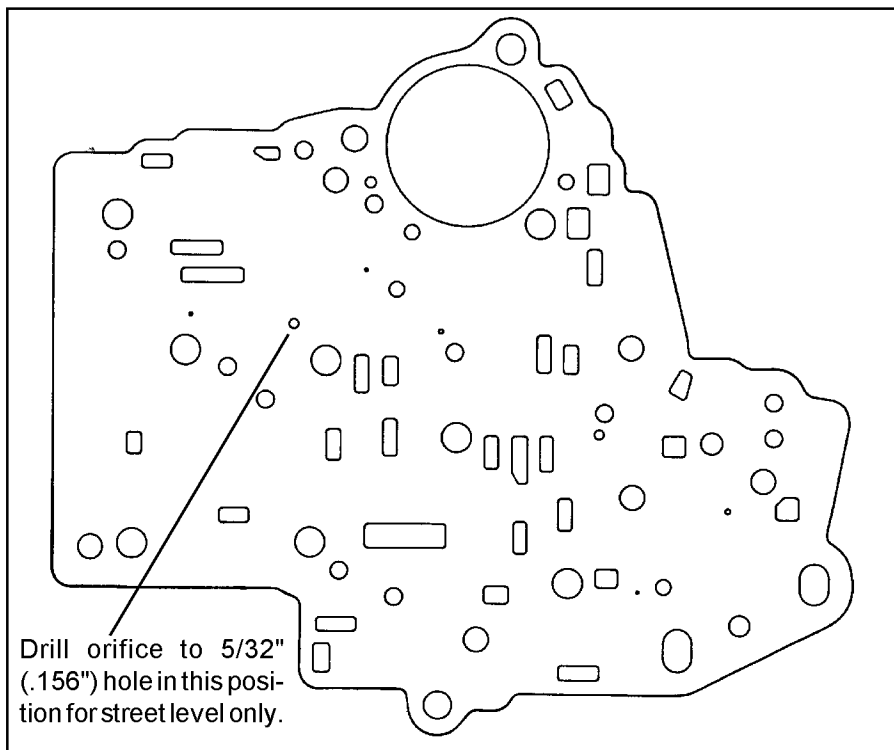

Figure 12
**STEP 8. Street level only:** Drill the B&M Separator Plate orifice indicated in Figure 12 using the 5/32" (.156") drill supplied in kit.